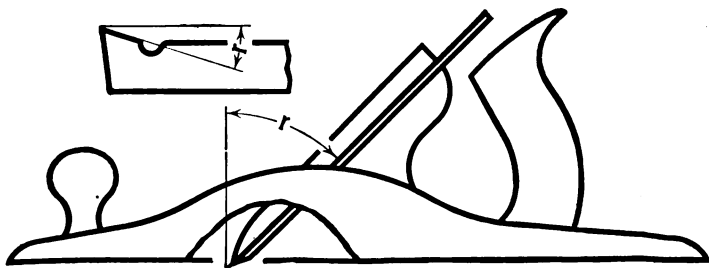

Fig. 19A
- 45 Fig. 19A shows “Rake Angle” on a carpenter’s plane and on a lathe tool.